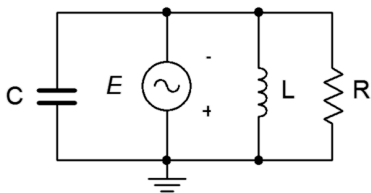

Figure 3.10
15. Determine all of the branch currents for the circuit shown in Figure 3.10 given $E = 10$ volt peak sine, $R = 220$, $X_C = -j 500$, and $X_L = j1.5 k$.